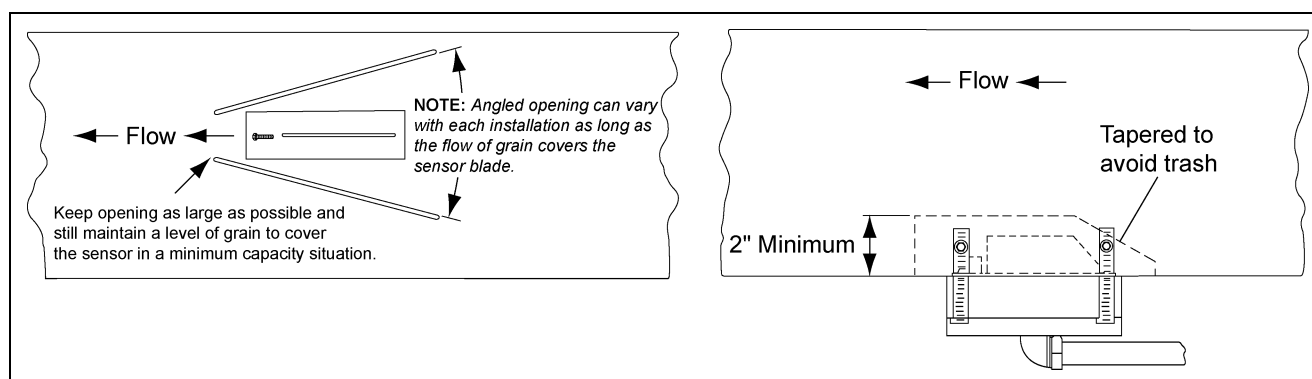

Figure 4N
- For conditions where straw or chaff can accumulate in the restrictor funnel, the grain can be channeled over the sensor with angled brackets in the down spout. (See Figure 4N.)